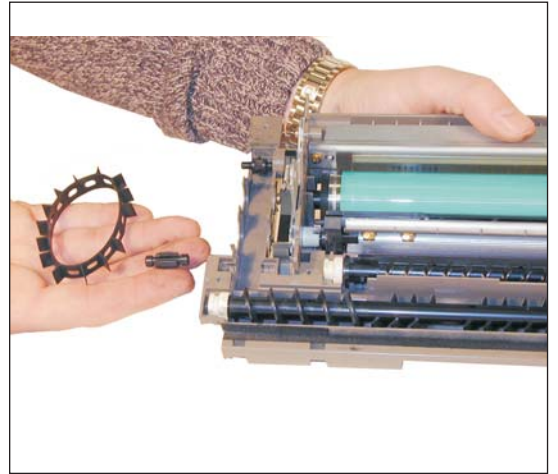

Figure 22
16) Remove the auger drive belt and paddle wheel. Clean out any remaining developer. See Figure 22